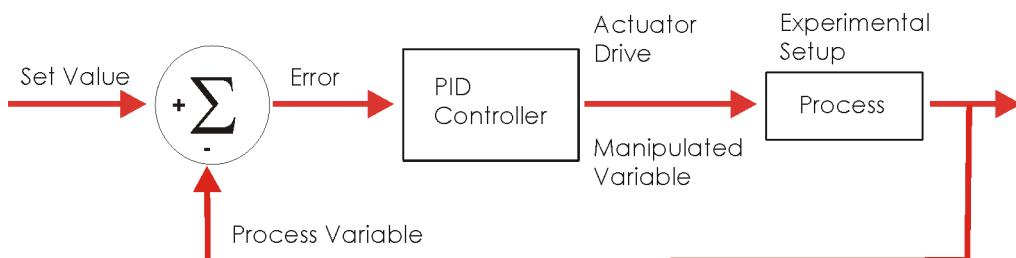

Figure 109 PID controller feedback loop
To obtain a good lock, it is necessary to optimize the gain settings of the PID controllers. Once a suitable Lock-In Output signal (Error signal) is at hand, the feedback loop (see Figure 109) can be closed and optimized. The general working principle of the Proportional-Integral-Differential (PID) controller is to minimize the deviation of a physical measure (Process Variable) from a selected Set Value by modifying the actuator drive (Manipulated Variable) accordingly. The output of the controller is a weighted sum of the integral (I), proportional (P), and differential (D) paths scaled by the overall gain. The digital PIDs in the DLC pro allow for a precise and reproducible control of the gain settings.